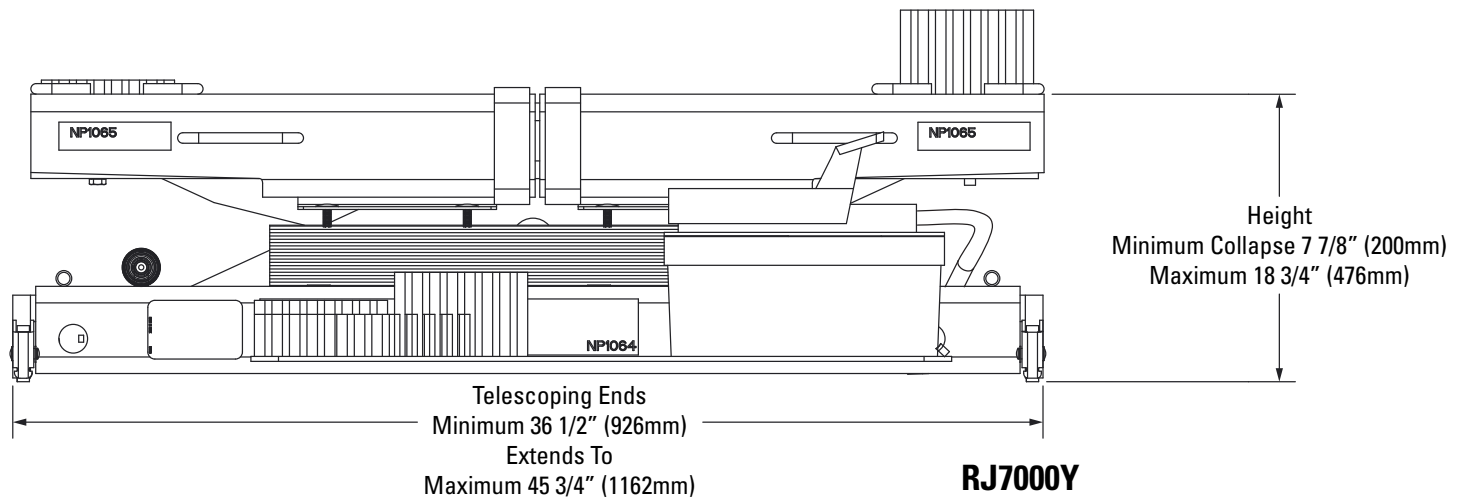

Fig. 2
- B. RJ7000Y: The rail engaging wheels shall be adjustable for an inside runway width of 36 1/2" (926 mm) minimum to a 45 3/4" (1162 mm) maximum Fig. 2.